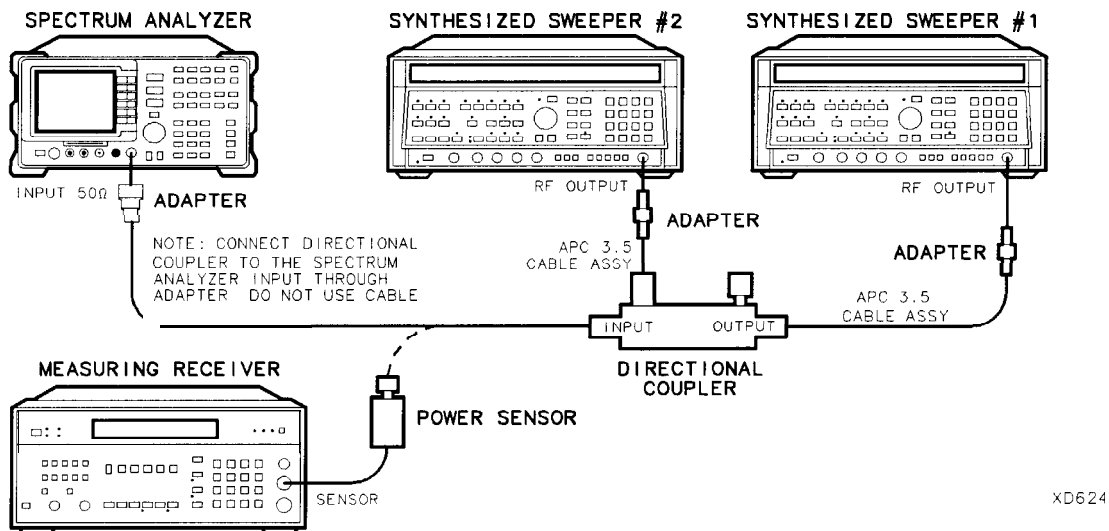

Figure 2-61. Gain Compression **Test** Setup
2. Connect the equipment as shown in Figure 2-61, with the output of the directional coupler connected to the power sensor.
28. Connect the equipment as shown in Figure 2-61.